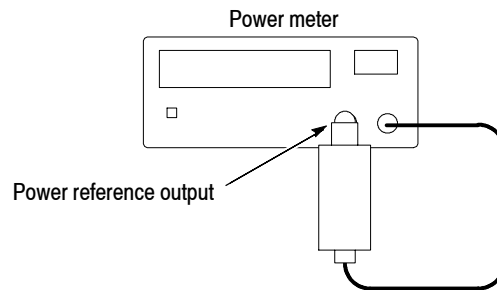

Figure 4-10: Hookup for calibrating the power sensor
- d. Connect the RF input of the power sensor to the power reference output of the power meter. See Figure 4-10 on page 4-25.